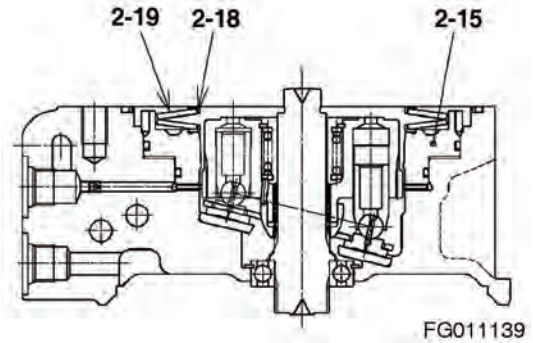

Figure 24
7. Remove disk spring assembly (2-19, Figure 24) and spring seat (2-18, Figure 24), and utilizing gage port of case (2-1, Figure 51), remove parking brake piston (2-15, Figure 24).